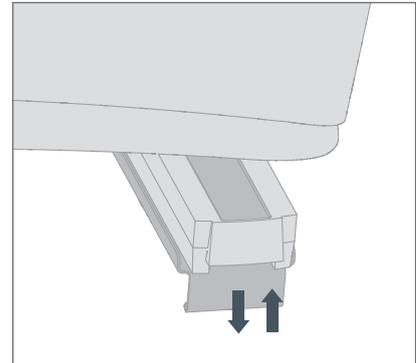

Figure 8. Pulling down battery compartment
1. Pull down on the battery compartment handle to gain access to the battery (see figure 8).
1. Ensure that the battery compartment in its lowered position (see figure 8).